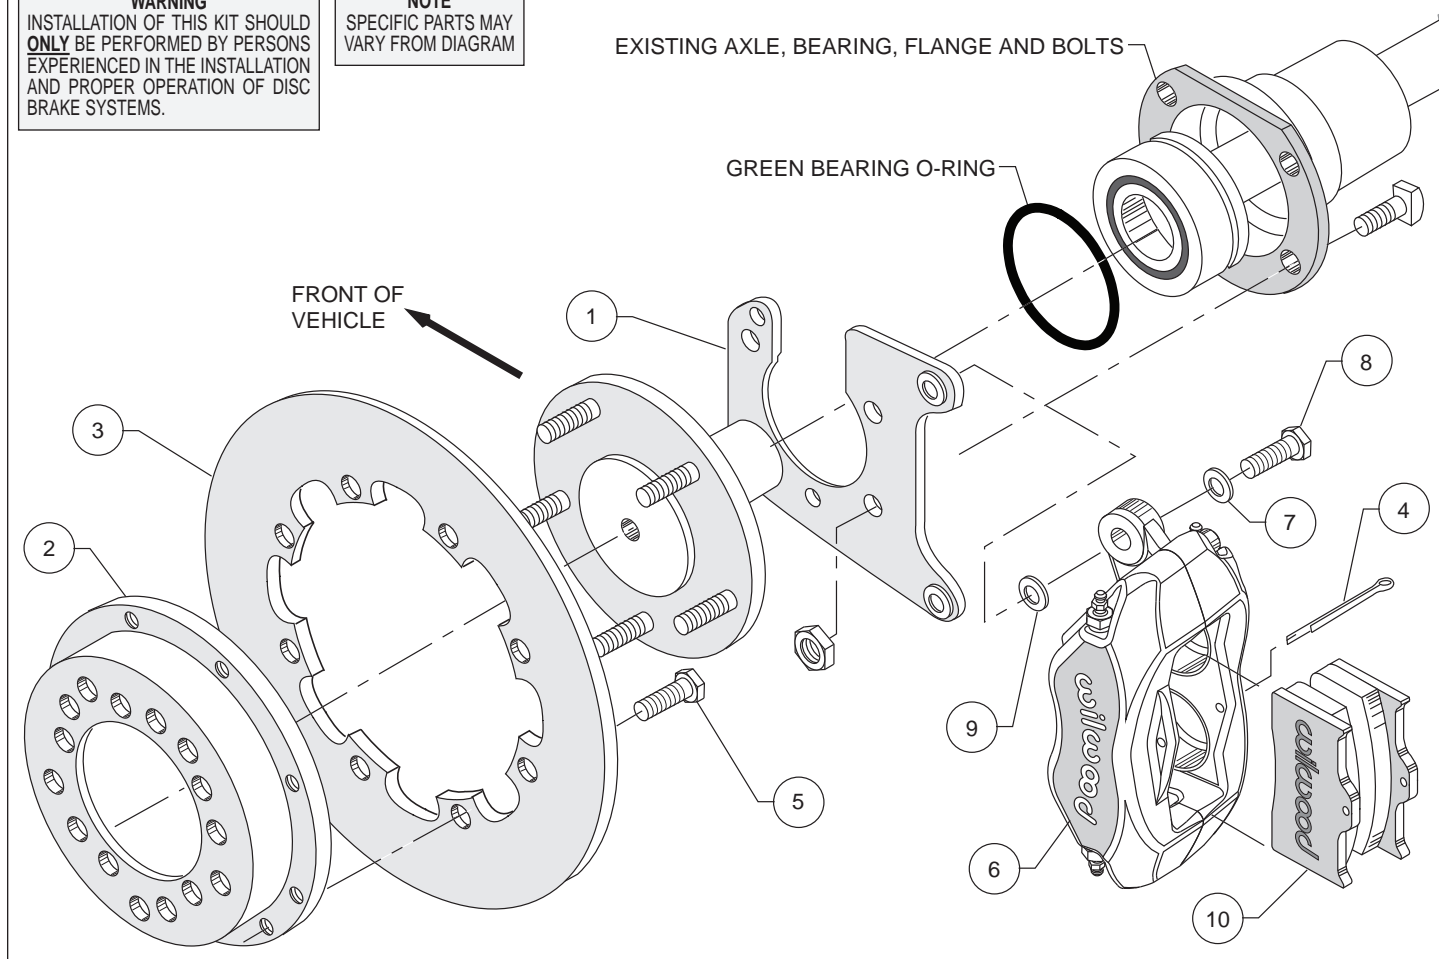
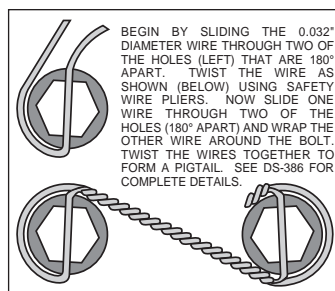
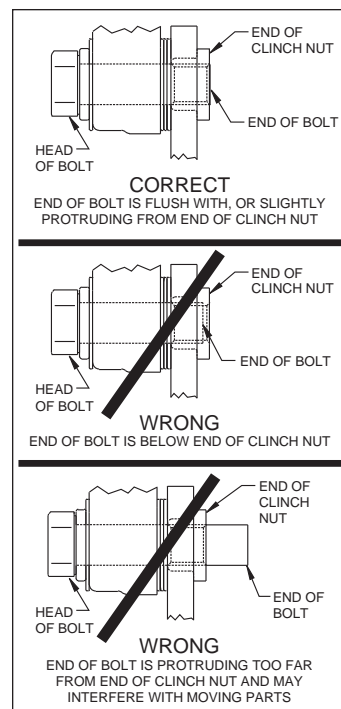

Figure 4. Typical Installation Configuration
Figure 7. Safety Wire Diagram
Figure 8. Clinch Nut Engagement Diagram
Assembly Instructions (numbers in parenthesis refer to the part list/diagram on the preceding page): **CAUTION:** All mounting bolts must fully engage insert nuts. Be sure to check that all bolts are either flush or protruding through flanged side of insert nut after shimming, Figure 8.
- Orient the bracket assembly (1) as shown in Figure 4 and install it onto the axle to retain the bearing. Ensure that the bracket assembly plate fits flush against the axle housing flange. Secure bracket assembly to the axle housing flange using the Original Equipment Manufacturer (OEM) bolts and nuts, Figure 4. Stock OEM hex nuts that retain the bracket (1) should be on the wheel side of the bracket. Apply red *Loctite*® 271 to the OEM bolt threads and torque to OEM specifications. **NOTE:** Make sure the heads of the caliper mounting bracket insert nuts are **FACING OUTWARD TOWARDS THE WHEEL.**
- Orient the rotor (3) and the hat (2) as shown in Figure 4. Attach rotor to hat using bolts (5). Using an alternating sequence, apply red Loctite® 271 to the threads, and torque bolts to 25 ft-lb. Safety wire bolts (5) using standard 0.032 inch diameter stainless steel safety wire as shown in Figure 7. Please refer to Wilwood's data sheet DS-386 (available at www.wilwood.com/Pdf/DataSheets/ds386.pdf) for complete safety wire installation instructions.
- Align the correct hole pattern in the hat (2) with the stud pattern on the axle flange and slide into place, Figure 4. **NOTE:** The rotor/hat must fit flush against the axle flange or excessive rotor run out may result. Install three lug nuts (finger tight) to keep the rotor/hat assembly in place while continuing with the installation. **NOTE:** Some OEM and after market axles come with stud sizes larger than 0.50" diameter. Verify stud size and have a qualified machine shop drill the bolt circle of the hat/rotor to the correct stud size, if necessary.
- NOTE:** Please reference the caution statement at the beginning of the assembly instructions. Mount the caliper (6) onto the caliper mounting bracket (1) using bolts (8) and washers (7), as shown in Figure 4. Initially place one .032" thick shim (9) on each bolt between the caliper and the bracket, Photo 1. Temporarily tighten the mounting bolts and view the rotor (3) through the top opening of the caliper. The rotor should be centered in the caliper, Photo 2. If not, adjust by adding or subtracting shims between the bracket and the caliper. Always use the same amount of shims on each of the two mounting bolts. **NOTE:** The end of each bolt must be flush with or slightly protruding from the head of the clinch nut, as shown in Figure 8. If necessary place spare shims between washer (7) and caliper mounting ear to achieve the proper clinch nut engagement. Once the caliper alignment and clinch nut engagement are correct, remove the bolts one at a time, apply red Loctite® 271 to bolt threads, and torque to 40 ft-lb.